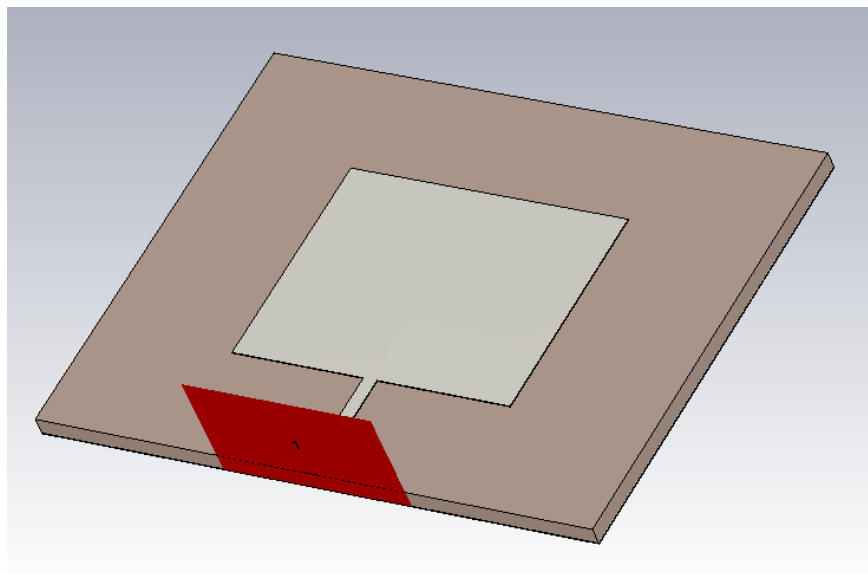
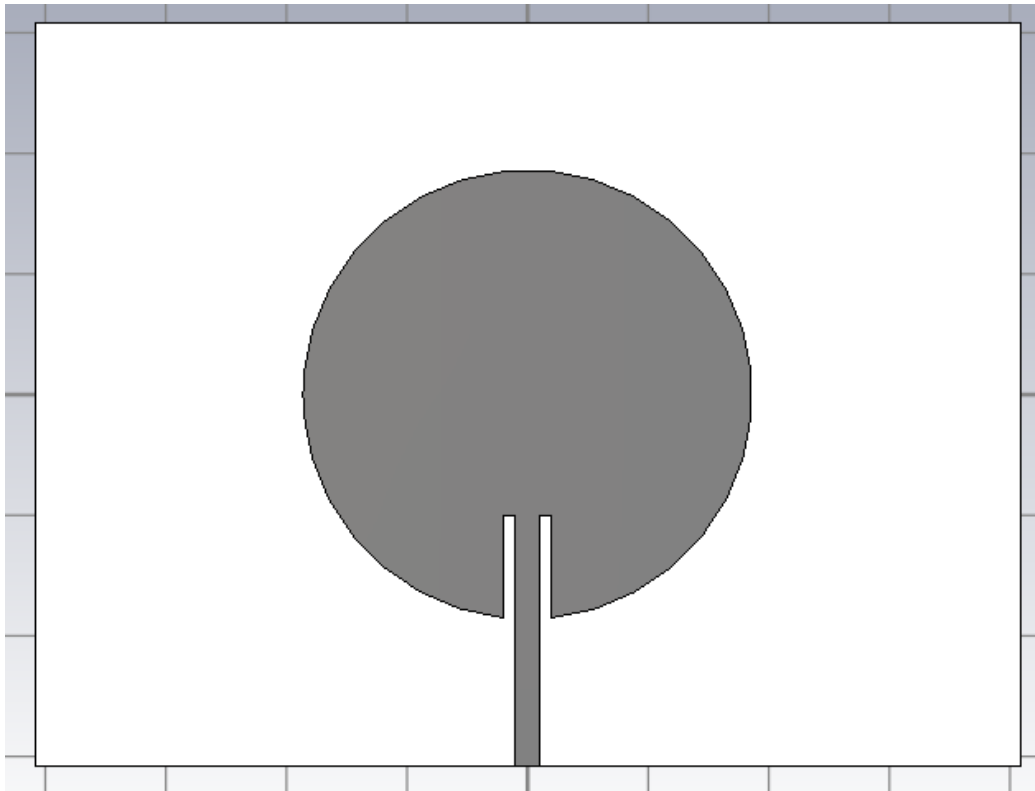

Figure 6 Perspective view of the rectangular patch antenna including the waveguide port.
Figure 7 Circular patch antenna
2. Design the antenna microstrip antenna of which details are given in Figure 6 and Figure 7, where the antenna dimensions are specified as: